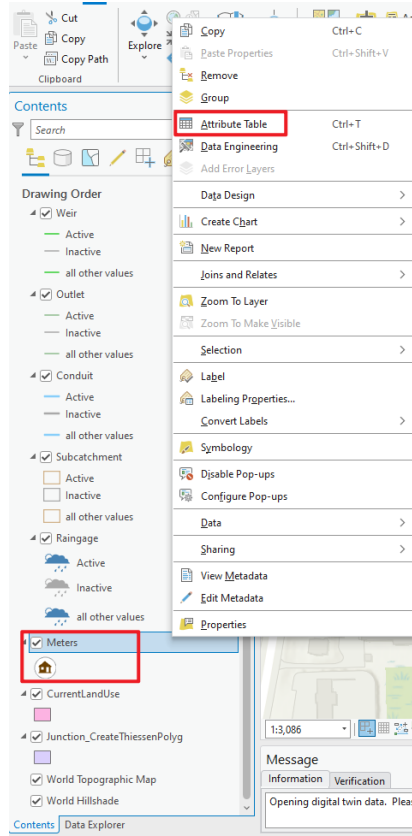

Figure 8: Open the Meters ArcGIS attribute table.
4. In the ArcGIS *Contents* pane, right click on the *Meters* feature class and go to its ArcGIS attribute table (**Figure 8**).